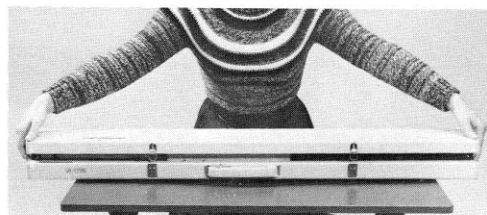

Fig.6
2. Remove cover lift and pull forward. (Fig.6)